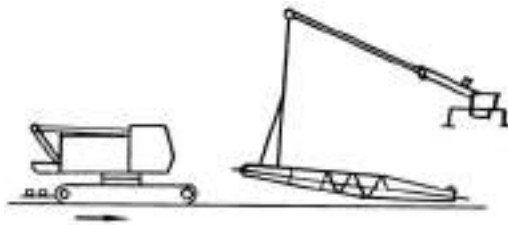

Fig. 7-4
3. Lift up the boom foot using an auxiliary crane, as shown in Fig. 7-4.
4. Center boom foot pin hole by moving machine. Lightly hammer boom foot pin to insert. Fit to insert. Fit in stopper, as shown in Fig. 7-4.